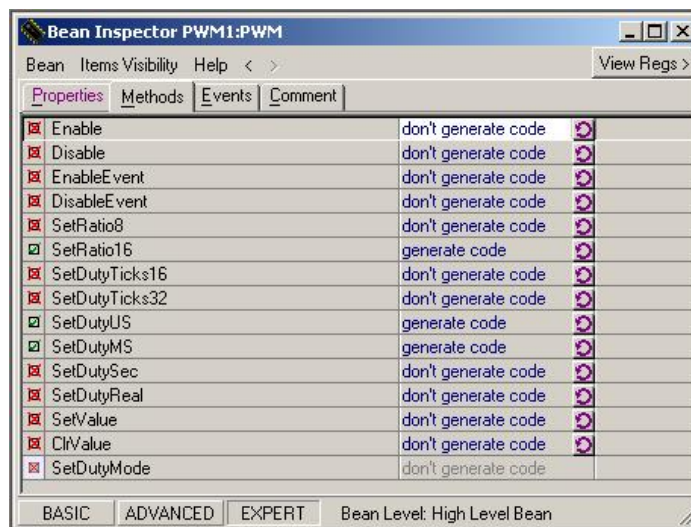

Figure 37. Bean Inspector Window - Methods for PWM Bean
5. Select which Methods to create by selecting the Methods tab (Figure 37) in the Bean Inspector window. Click the round arrow button (↻). For this bean, the methods that used are: